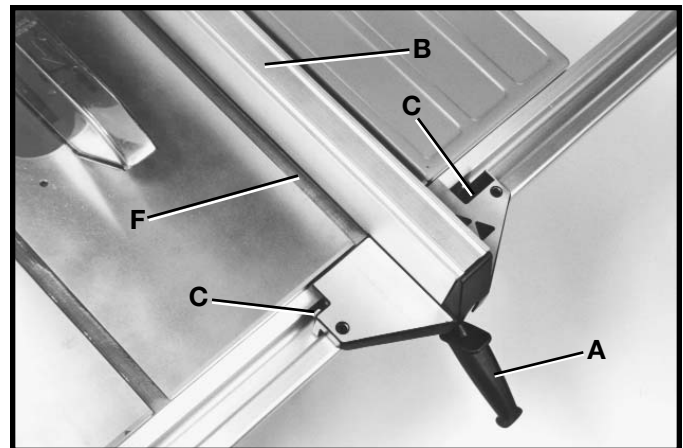
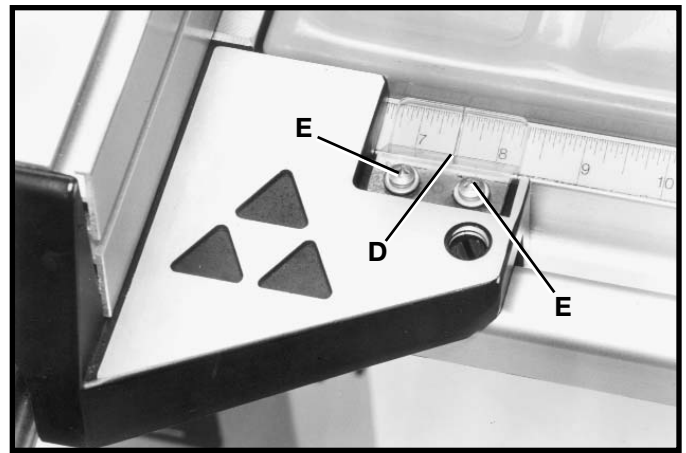

Fig. 18
Fig. 20
1. To move the rip fence, raise the lock handle (A) Fig. 18, as far as it will go and move the fence to the desired position on the table. When the lock handle (A) Fig. 18, is pushed down, clamping action on the rip fence (B) should be adequate. However, if the clamping action is too loose or too tight, an adjustment can be made by equally tightening or loosening two screws (C) as necessary. **NOTE:** It will be necessary to remove the cursor (D) Fig. 20, to make this adjustment
2. Position the fence (B) Fig. 18, along one edge of the miter gage slot (F) as shown and lock the fence in that position. The edge of the fence (B) Fig. 18, should line up parallel to the miter gage slot (F). If an adjustment is necessary, proceed as follows:
3. Tighten or loosen either of two screws (C) Fig. 18, as necessary, until the fence (B) is parallel to the miter gage slot. **NOTE:** It will be necessary to remove the cursor (D) Fig. 20, to make this adjustment. Readjust the clamping action on the fence; if necessary, refer to **STEP 1**. Re-assemble the cursor.
5. Depending on the type of saw blade being used, the cursor (D) Fig. 20, may need adjustment to compensate for the blade thickness. To adjust the cursor, make a test cut on a piece of lumber and measure the finished cut, or you can place the rip fence against the blade as shown earlier in the manual. If a minor adjustment is necessary, loosen two screws (E) Fig. 20, and move the cursor (D) as necessary.